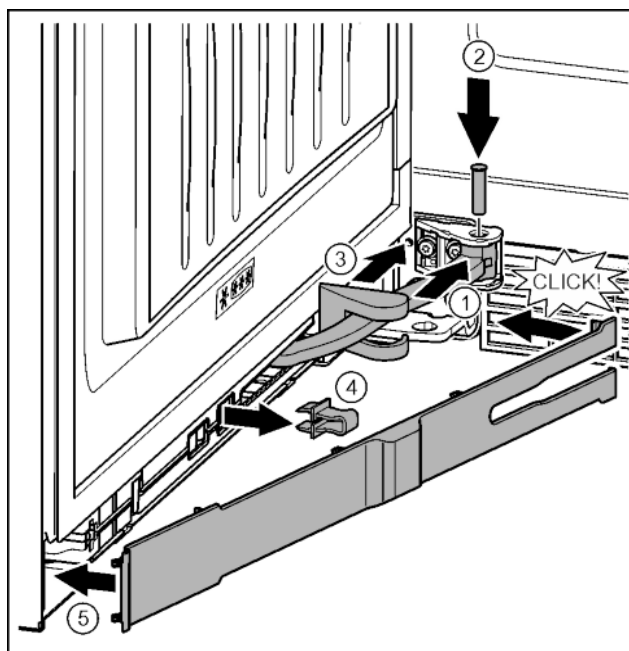

Fig. 40
- ▶ Turn the hinge in the mount. *Fig. 40 (1)*
- ▶ Insert the bolt with a T15 screwdriver in the mount and hinge. Make sure that the catch mechanism is sitting correctly in the groove. *Fig. 40 (2)*
- ▶ Push the bearing bracket cover along the hinge and fit on the mount. *Fig. 40 (3)*
- ▶ Remove the locking device. *Fig. 40 (4)*
- ▶ Position the panel on the handle side and swing it in. *Fig. 40 (5)*